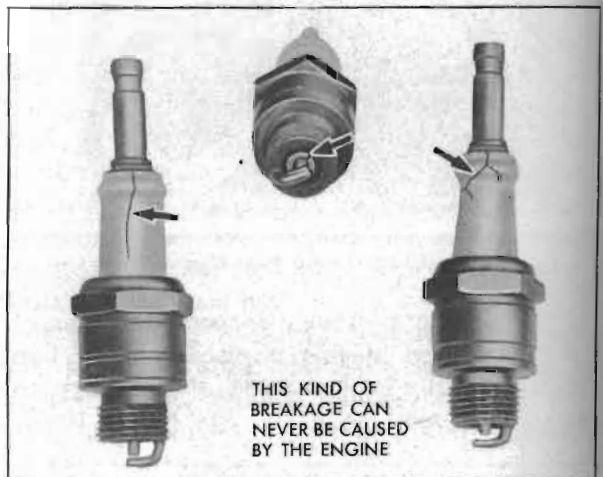

Figure 10-70—Broken Spark Plug Insulators
1. Use a $\frac{13}{16}$ " socket wrench to remove all spark plugs. An oversized or worn wrench may distort the spark plug shell and crack the insulator. If socket wrench is allowed to press against the outer end of plug, the insulator will be cracked or broken. See figure 10-70.